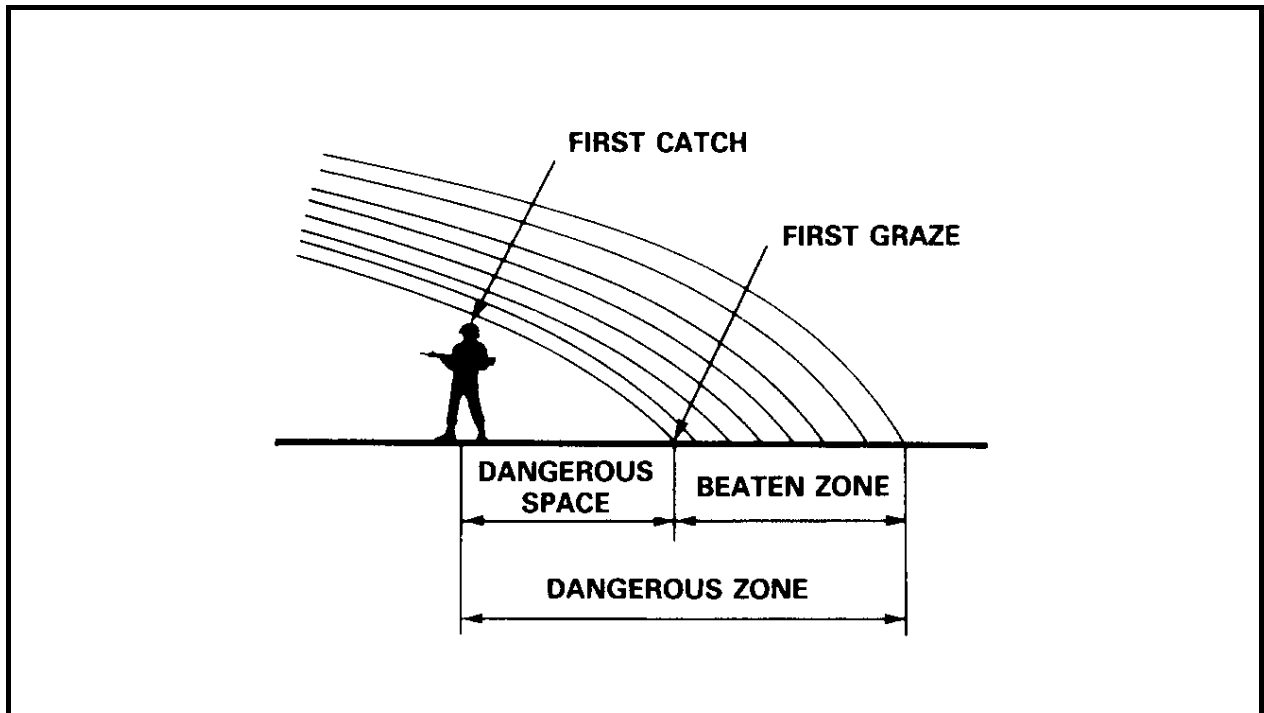

Figure 2-6 Dangerous Zone
- c. **Dangerous Space.** The dangerous space is the area between the point where a bullet will just strike the top of a target (first catch) and the point where the same bullet would strike the ground if it were allowed to continue on its trajectory (first graze) (see Figure 2-6).
- e. **Dangerous Zone.** The dangerous zone is the area covered by the dangerous space and the beaten zone. For fire to be effective, the target must be included in the dangerous zone (see Figure 2-6).